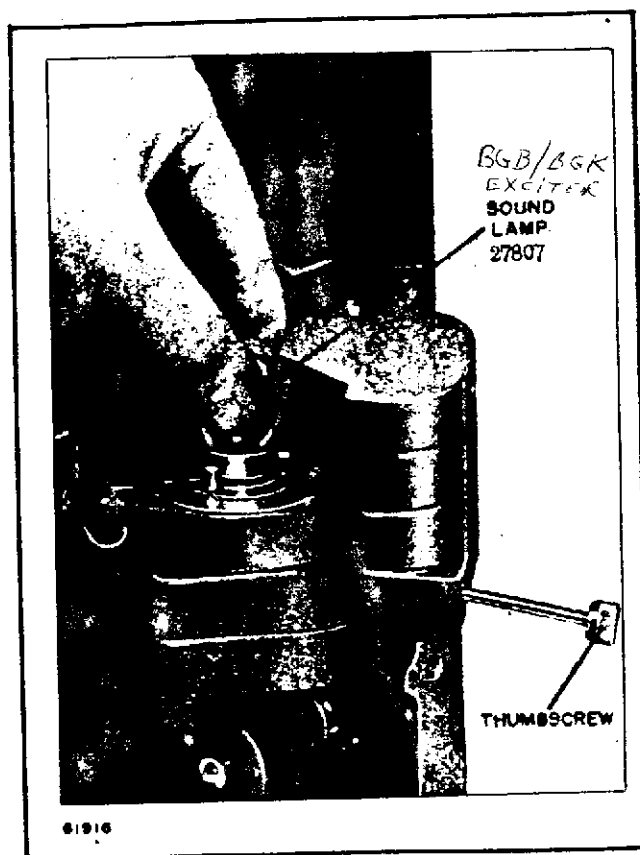

Figure 9 — Replacement of Sound Lamp
d. *Sound Lamp*. Refer to figure 9. Open the sound optical bracket and clean the lamp in place.
1. *Sound Lamp.* The sound lamp is the most likely component to require replacement during a show. Spare lamps should be kept conveniently at hand. Open the sound optical bracket, see figure 9. Grasp the sound lamp with the left hand as shown, lift it slightly and turn it counter clockwise to disengage the socket pins. To install the new lamp, line up the notch in its flange with the small hole in the socket plate, and drop the flange over the socket pins. Push it down against the socket base and turn the lamp clockwise until it snaps into place. (Clean finger marks.)